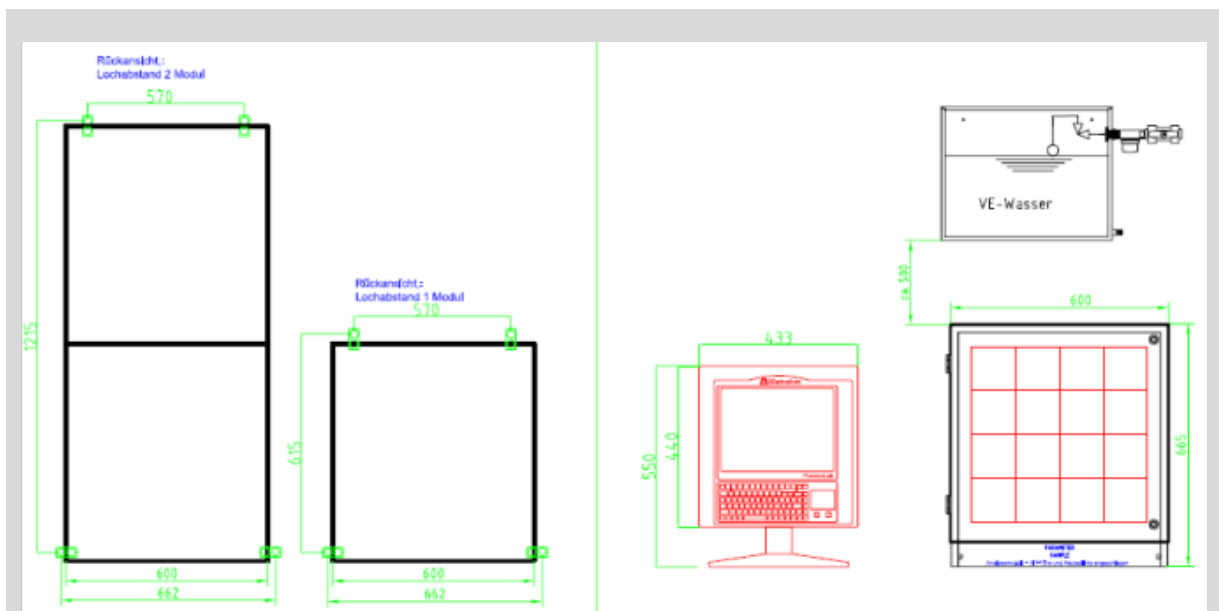

Figure 1: Instrument dimensions for wall mounting and demineralized water
The analyzer needs the necessary clearance to the left and right side for cable connections. The analyzer also needs clearance in the front and on the left and right side for the wet end door swing (see Figure 1).
- If two IC Process Extension housings are placed on top of each other on a table, then the system has to be protected against falling over (see Figure 1: Instrument dimensions).